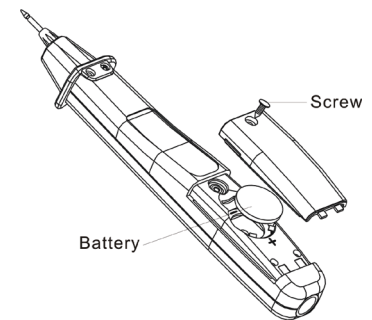

Figure 4
**Maintenance (see figure 4)**